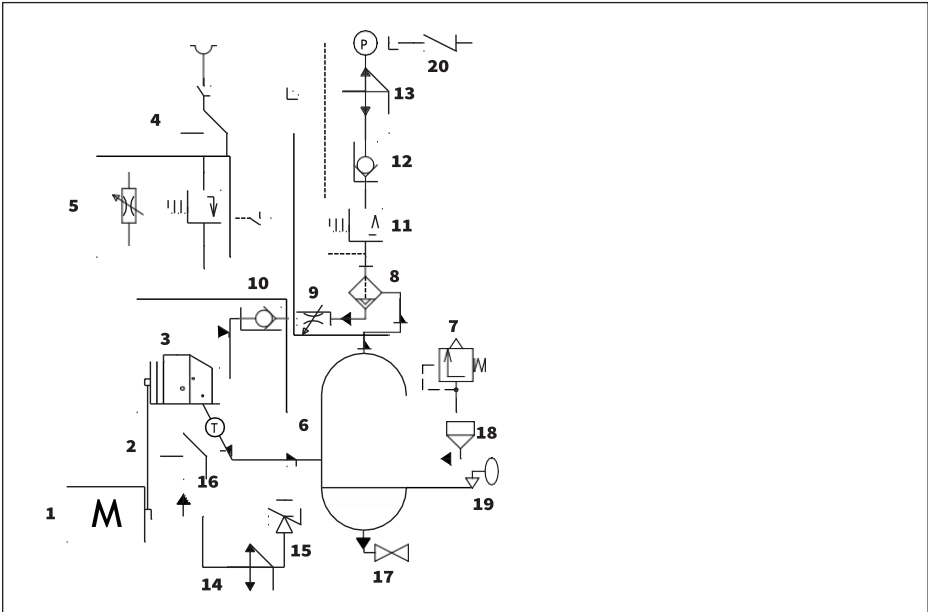

Fig. 2.3.1 Function diagram A07..-A22..
2.4 Functional description (see Fig. 2.3.1 and Fig. 2.3.2)